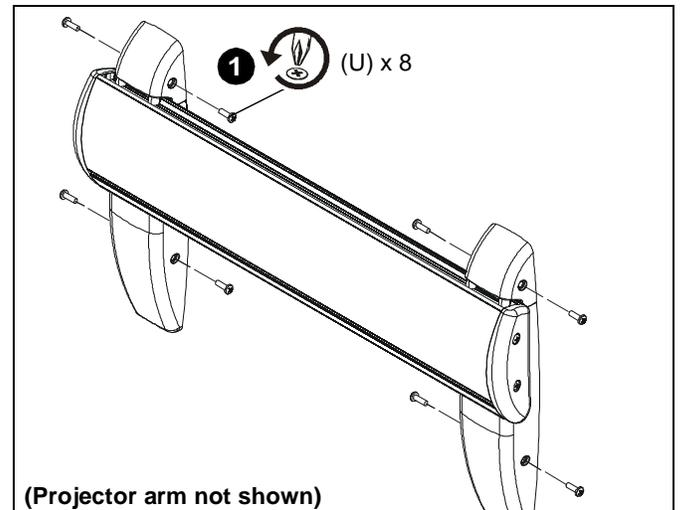

Figure 39
1. Remove eight #8-32 x 1/2" Phillips pan machine screws (U) from wall bracket covers. (See Figure 39)